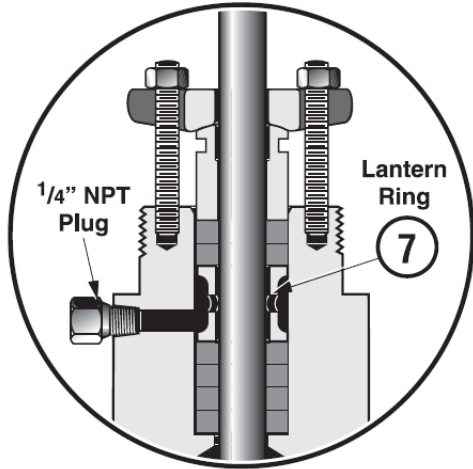

Figure 2: Lubricator Connection (Optional)
NOTE: On valves equipped with an optional lubricator connection, refer to Figure 2 for correct amount of rings to place under the lantern ring (7).
- E. Replace packing follower (5) and packing flange (4).
- F. Replace and tighten packing stud nuts (3).
- J. If a leak detection connection was installed, connect it on the lateral NPT port in the bonnet. If not, insure that the 1/4" NPT plug remained in place (Figure 2).
- B. Install seat ring gasket (11) and seat ring (14).